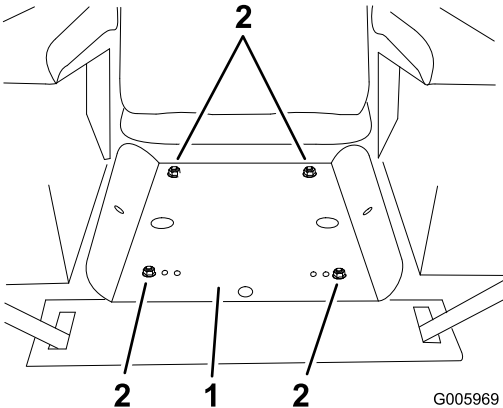

Figure 6
3. Remove the nuts holding seat pan to the seat tracks (Figure 6). Remove the seat and set aside. Retain the seat pan fasteners for later use. Discard the conical spacers.